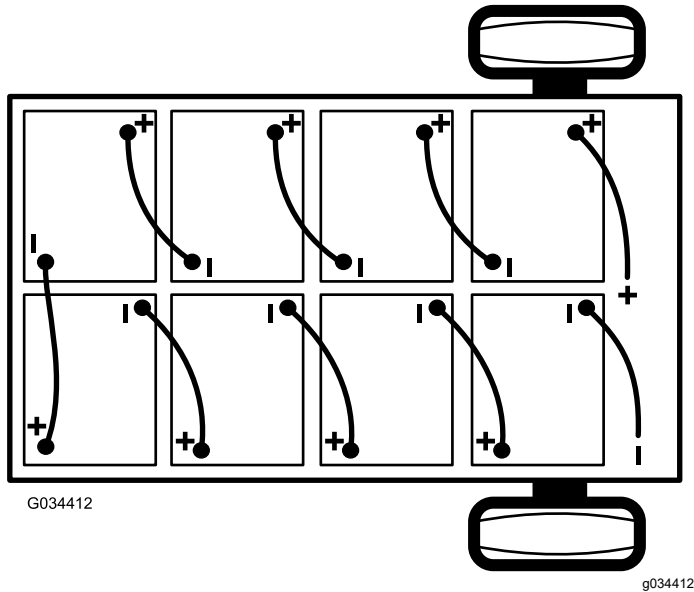

Figure 40
2. Disconnect the main negative-battery cable (black) that connects the bank of batteries to the ground point of the machine (Figure 40).
3. Disconnect the main positive-battery cable (red) that connects the bank of batteries to the main contactor of the machine (Figure 40).
Note: Pay attention to the battery polarity when installing the new batteries (Figure 40).
6. Connect the batteries together as shown in Figure 40 with the battery-interconnect cables that you removed in step 1.
2. Connect the main positive-battery cable (red) between the bank of batteries and the machine (Figure 40).
3. Connect the main negative-battery cable (black) between the bank of batteries and the machine (Figure 40).